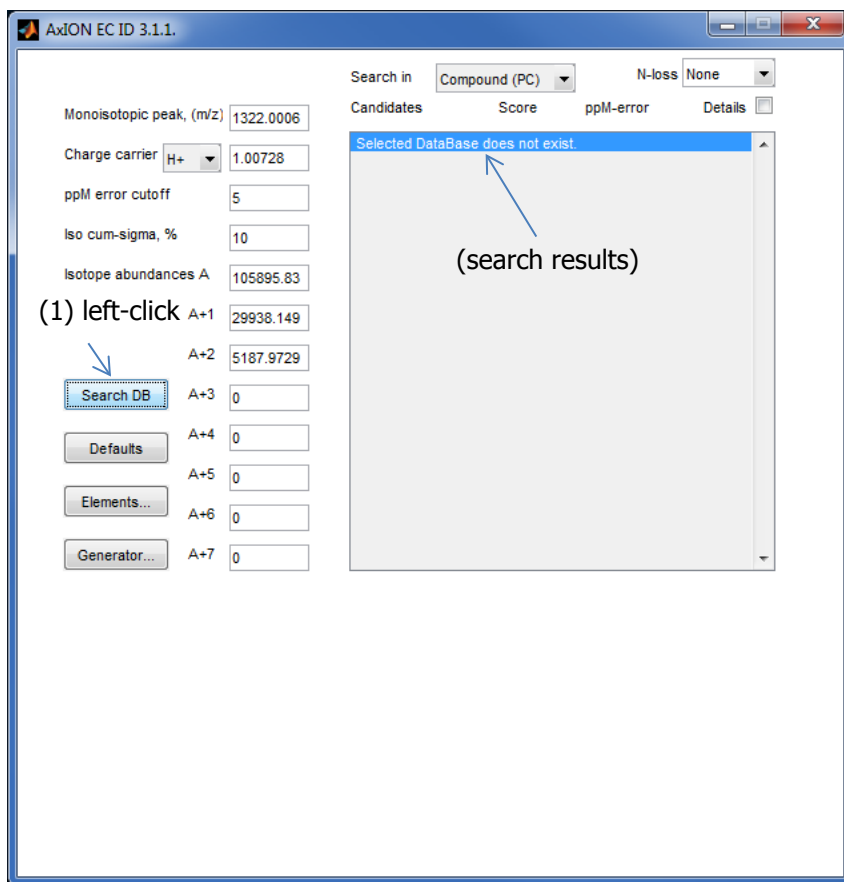

Figure 2. There are no records in Compound Extract DB above m/z of 1000.
In this example, experimental target mass is 1322.0006 and PubChem Compound (PC) extract for this mass range is empty, which is listed in the Results panel, if the "Search DB" button is pressed, as shown in Figure 2.